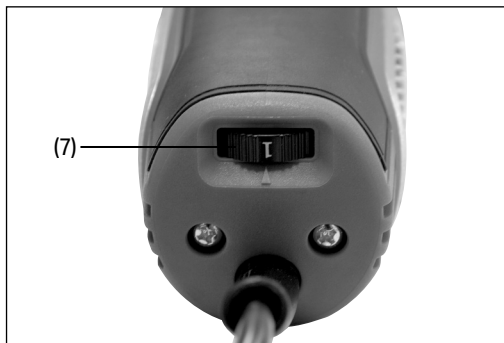

Fig. 7
7.2 Variable Speed Switch (Fig. 7)
- Turn the speed switch (7) to select the speed setting appropriate for the application.